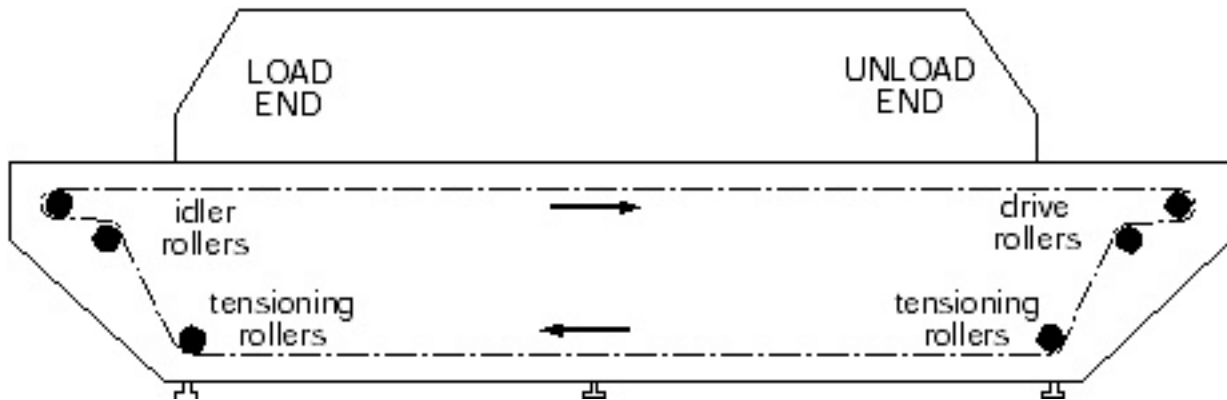

Figure 83: Mesh Belt Path
1. Pass the conveyor belt around its six (6) rollers as illustrated in Figure 83. Ensure that the closed ends of the loops lay toward the unload end of the machine.
2. Join the two (2) ends of the mesh belt together by installing the connecting strand. Tie the ends of the mesh wire belt together to keep them from slipping apart while completing the wire belt splice.